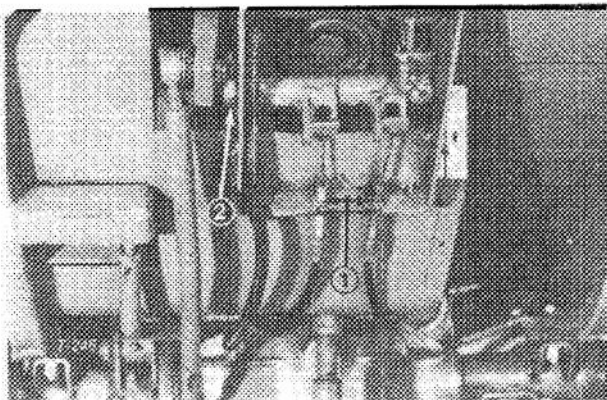

Figure 31
1. Loosen brake cable jam nuts and disengage brake cables from brake pedals (Fig. 31).
2. Remove locknut from brake pivot pin (Fig. 31). Slide pivot pin out to the side so pedal can be removed.